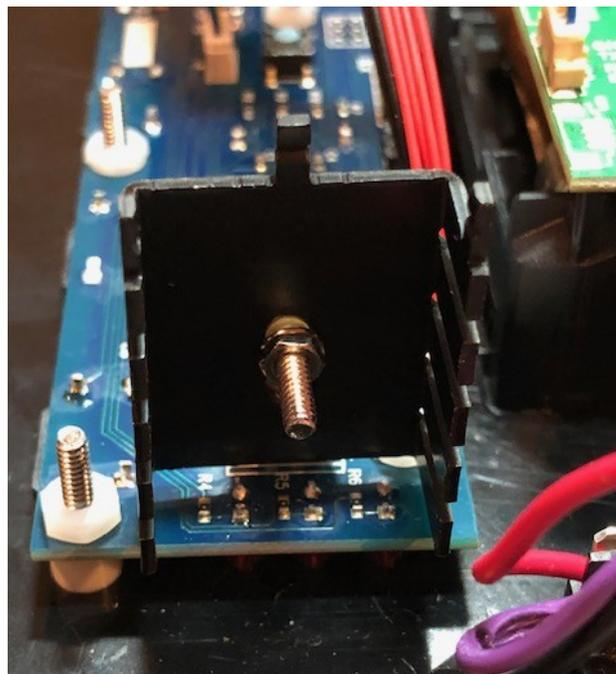

Fig 7
- d) Place the heat sink against the back of the voltage regulator with the screw going through the slot in the heat sink. Heat sink fins should be facing right and the mounting tabs facing upwards away from the circuit board. (Fig 7)